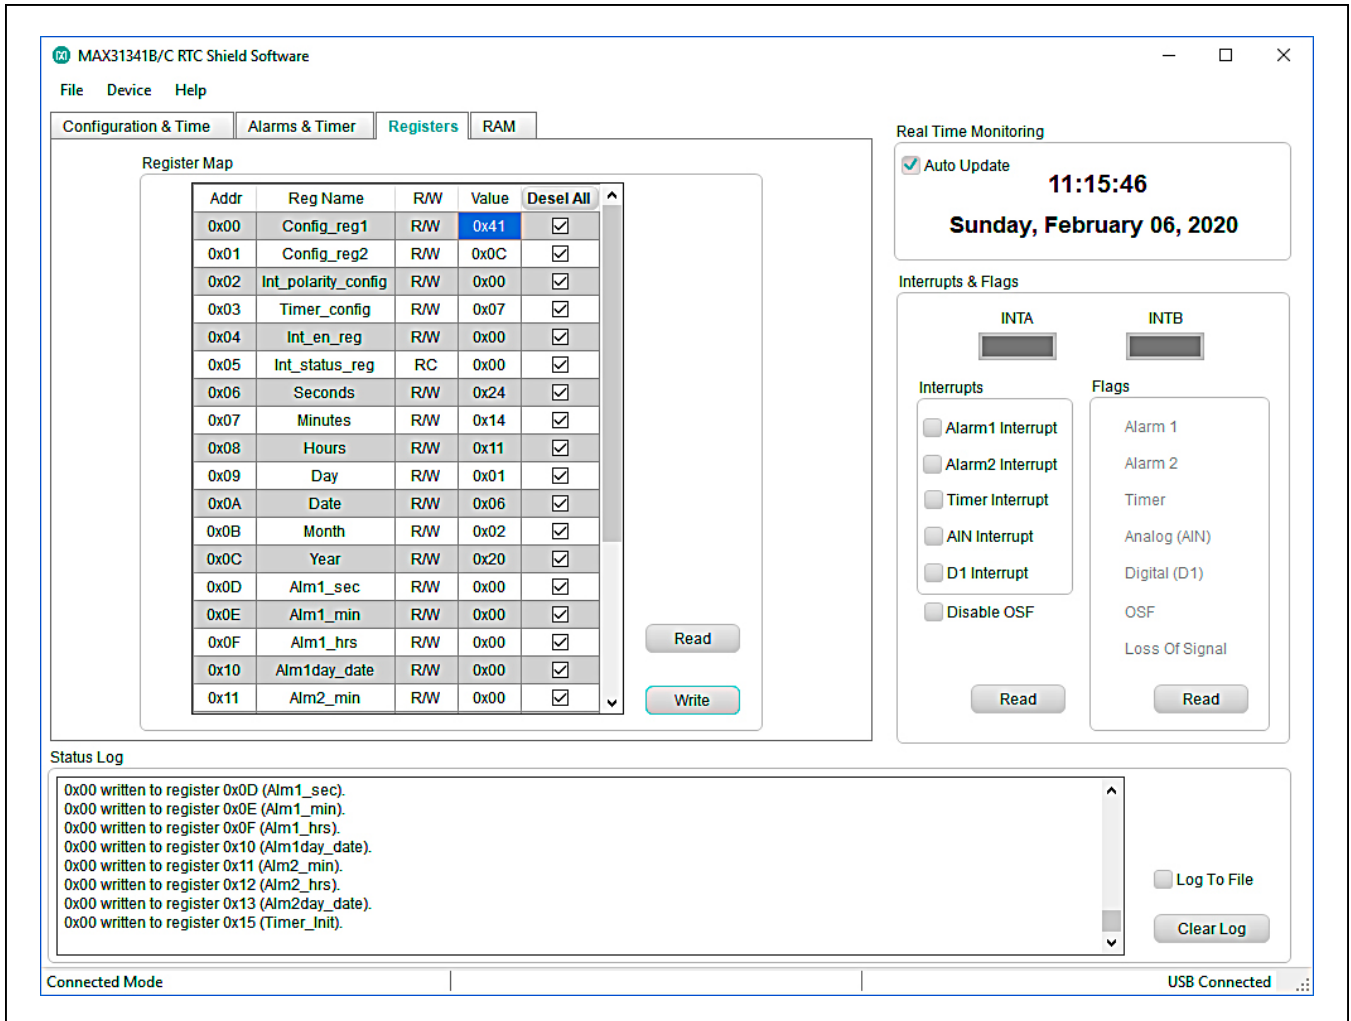

Figure 5. MAX31341B/C RTC Shield Software—Registers Tab
- On the **Registers** tab (Figure 5), in the **Register Map** section, press the **Read** button and make sure that the value of register 0 (Config_reg1) shows 0x41. Otherwise, set it to 0x41 and press the **Write** button. Now the reading in the picometer is the current from the MAX31341B or MAX31341C only. It should be around 210nA.